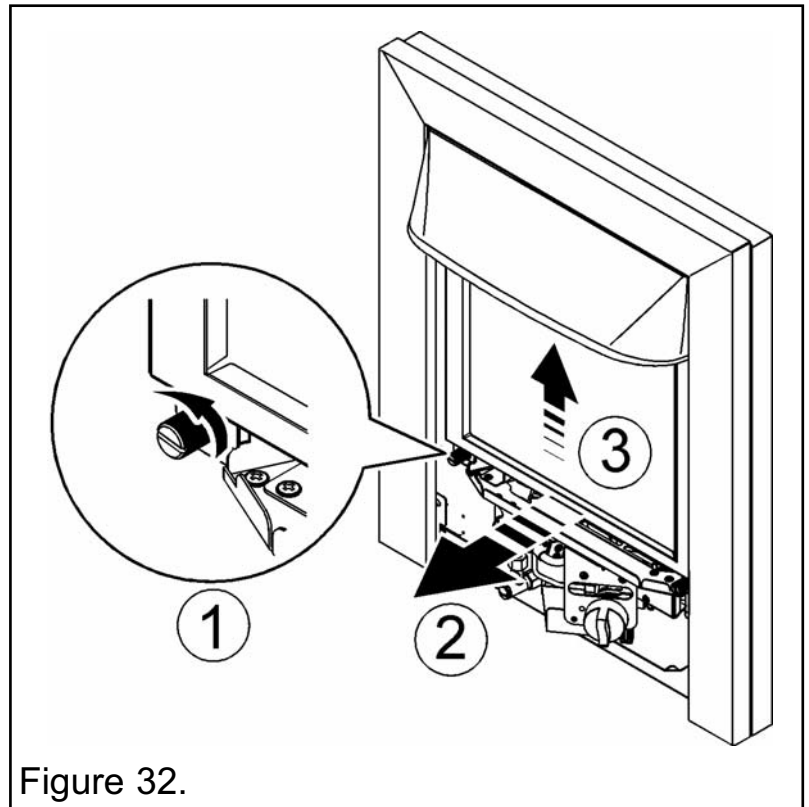

Figure 32.
2. Detach and remove the window assembly. To do this unscrew and remove the two thumbscrews at the base of the window assembly. Gently lift the window assembly upward and forward (See figure 32). Place the window assembly and thumbscrews in a safe place away from the work area.